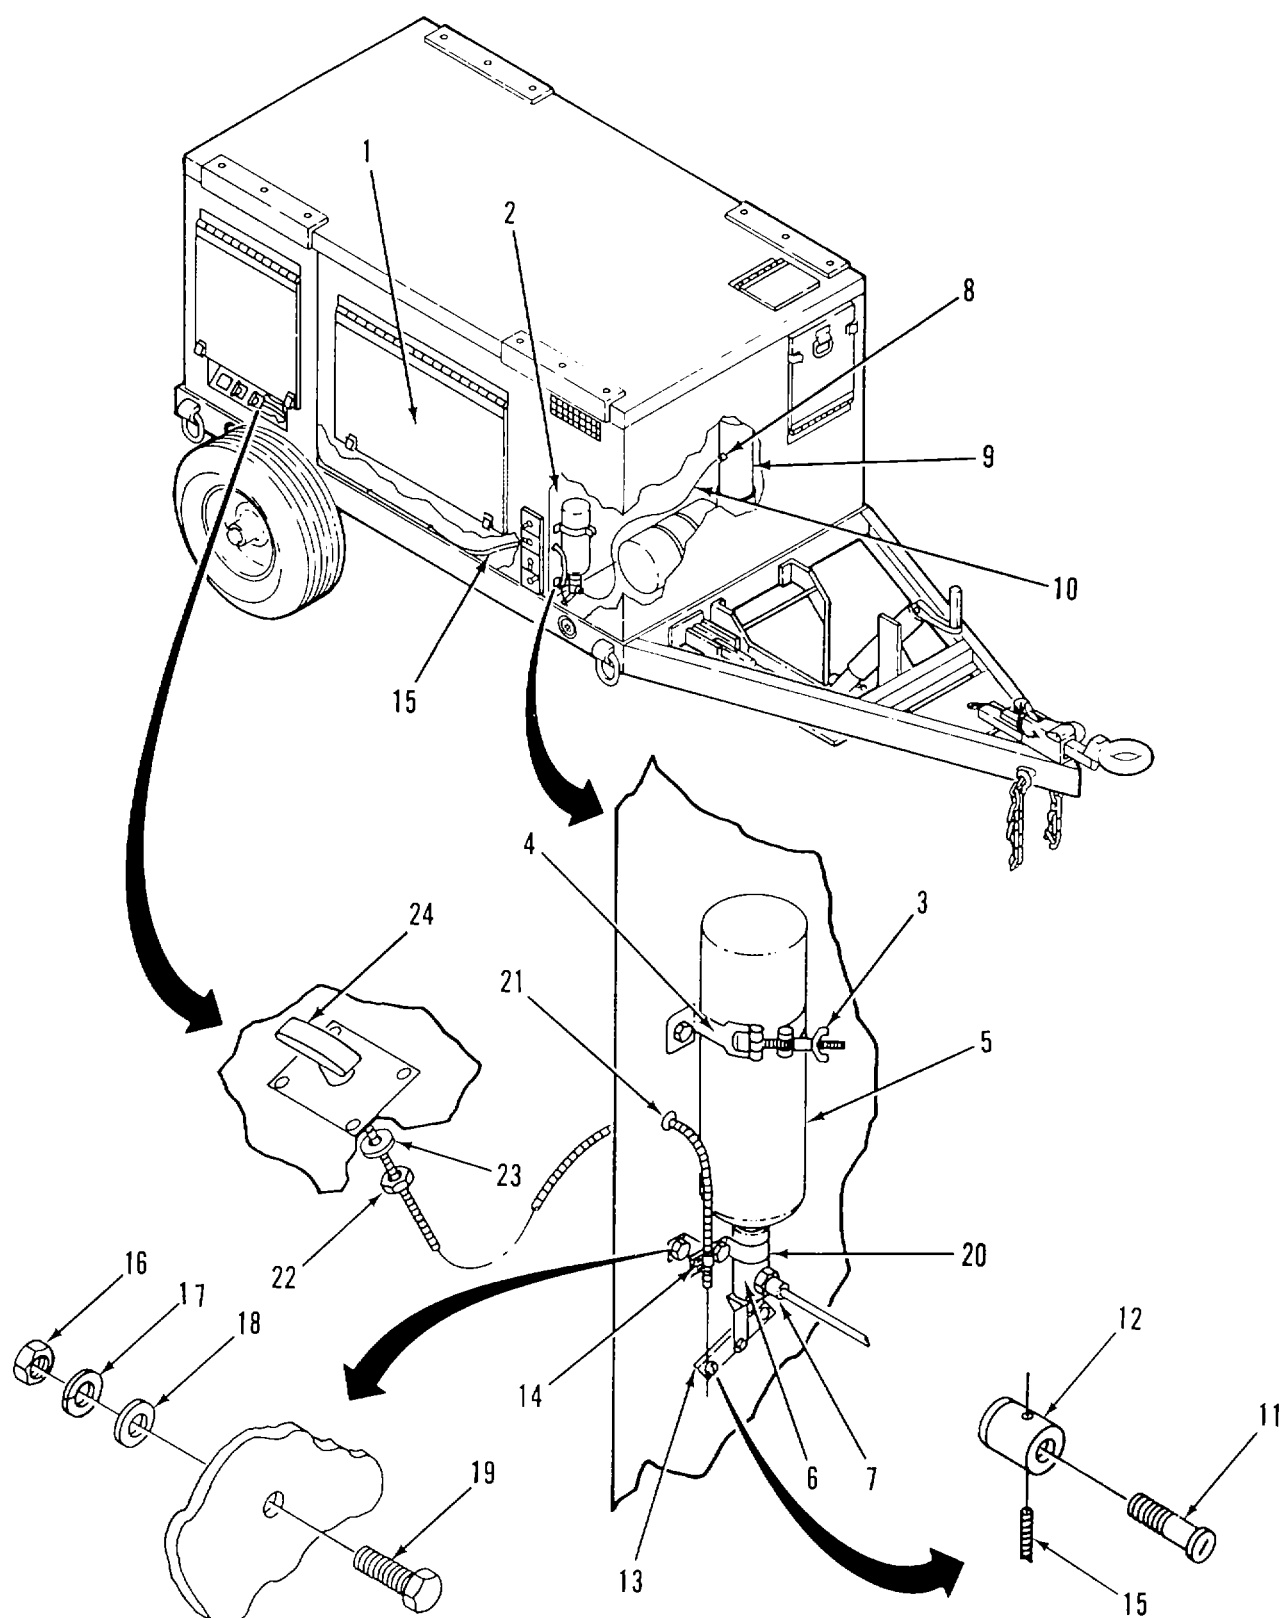

Figure 2-20. Cold Start Hose, Bottle, and Cable
a. REMOVE. (Figure 2-20)
- (1) Open air cleaner and engine access doors (1 and 2).
- (2) Loosen wing nut (3) on bottle clamp (4). Unscrew and remove ether bottle (5) from actuator (6).
- (3) Disconnect hose fitting (7) at actuator (6).
- (4) Disconnect hose fitting (8) at engine air intake line (9).
- (5) Remove hose assembly (10).
- (6) Loosen screw (11) at cable stop nut (12) on actuator lever (13). Loosen clamp (14) and remove wire end of cable (15).
- (7) Remove nuts (16), lockwashers (17), flat washers (18), bolts (19), and bracket (20) with actuator (6).
- (8) Pull cable (15) through enclosure panel cutout hole (21) into engine compartment.
- (9) Loosen and remove all clamps from cable (15).
- (10) Loosen nut (22) and lockwasher (23) at handle (24).